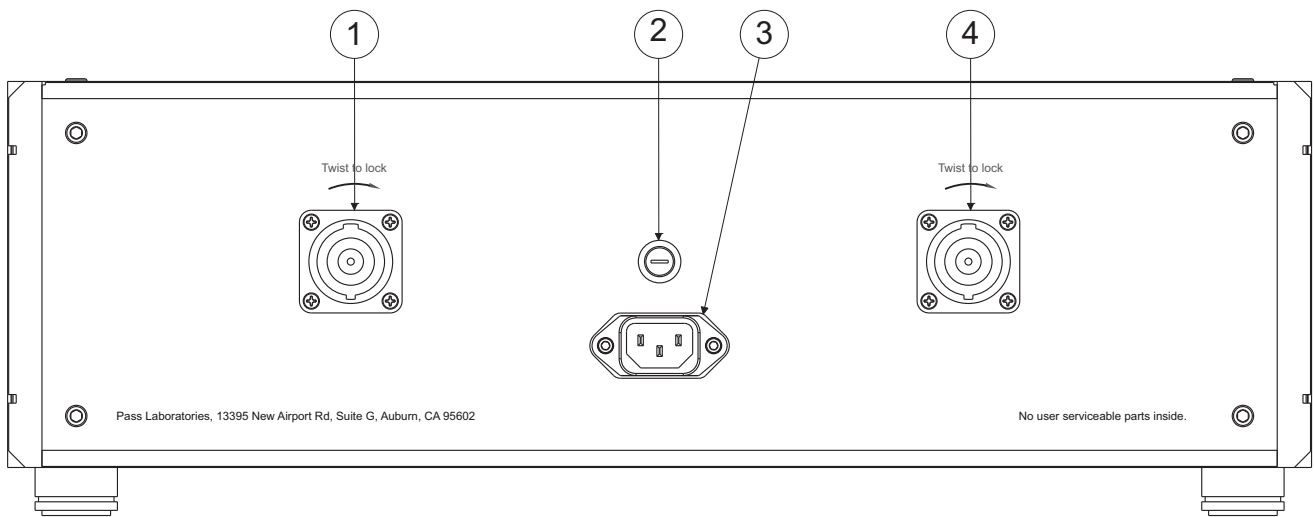

Figure 4.
a) Connect the two Powercon™ cables to the power supply chassis. (FIG 4, #1, #4)
4) Now you can plug the AC cord into the supply (Fig 4 #3) and the supply into the AC mains.